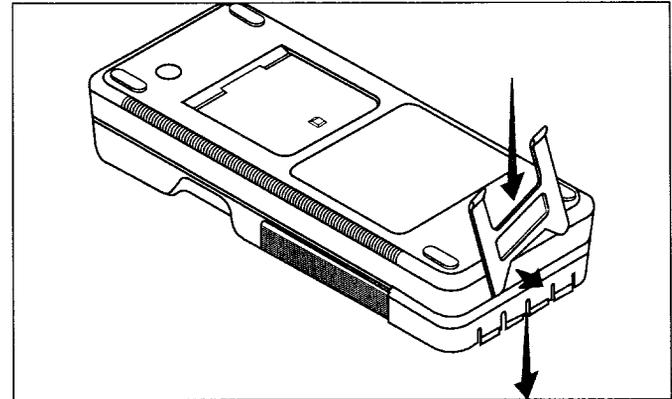

Fig. 13 Removing the SECURX
2. Refer to Figure 13, and use one leg of the stand to pry the SECURX test lead retainer slightly away from the multimeter housing. Remove the SECURX.